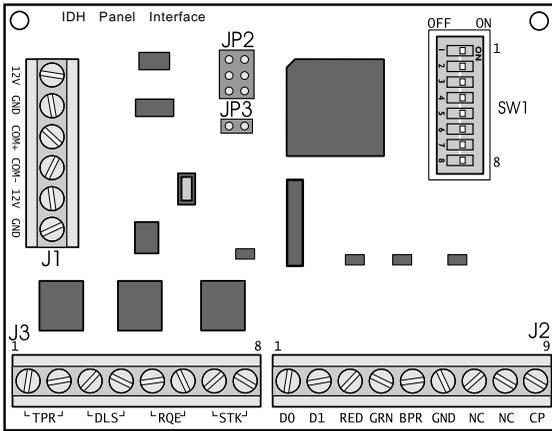

Figure 21a Panel interface circuit board
**Note:** JP2 and JP3, shown in Figure 21a, are used for manufacturing purposes only.